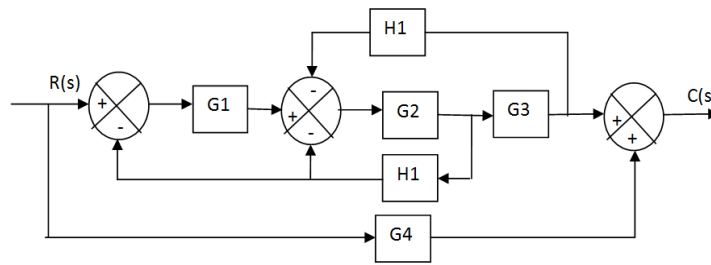

Fig.4
- (b) For the signal flow graph shown below fig.4 using Mason's gain formula obtain X_2/X_1 . 8M